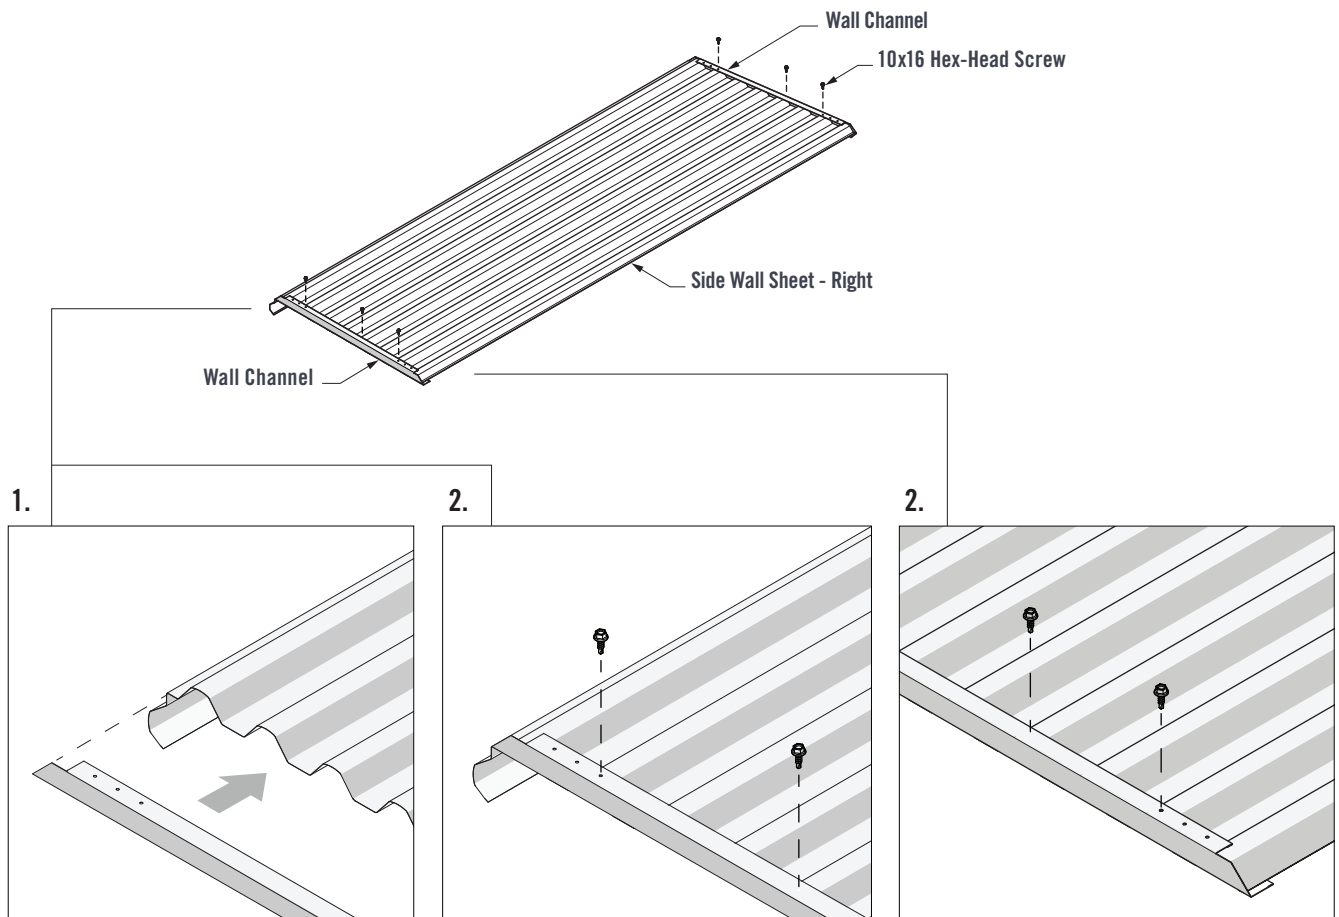

FIGURE 3.2
1. Fit the Wall Channels over the Side Wall Sheet (Right). The end of the Wall Channel should fit up against the end of the Corner Wall Sheet (Figure 3.2).
2. Fasten through the third pilot hole of both Wall Channel ends and into the Wall Sheet crests. Fasten through the Wall Channels and into the third Wall Sheet crest using one 10x16 Hex-Head Screw in each Wall Channel (Figure 3.2).